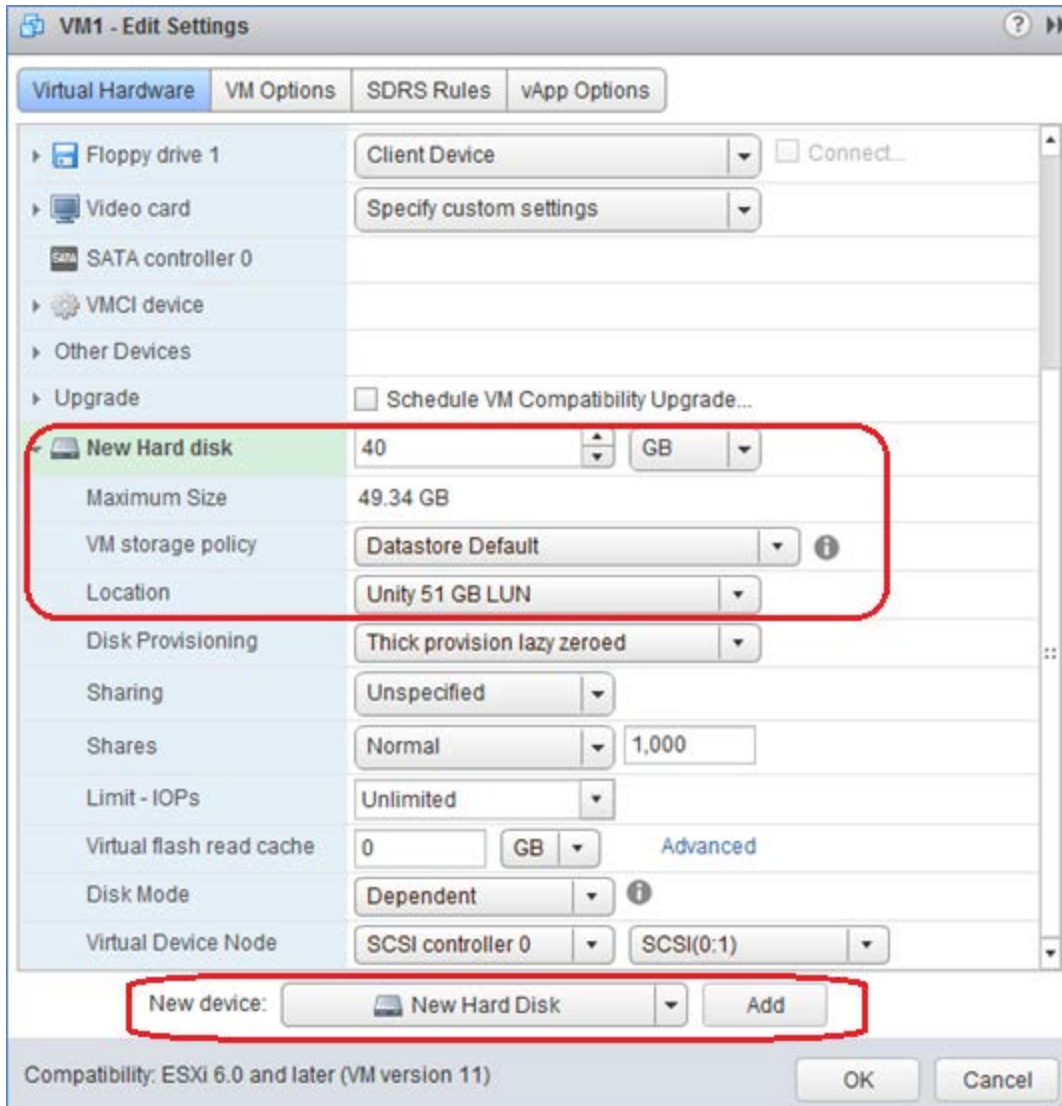

Figure 30 New hard disk configuration options
5. Next to **Location**, select **Browse**. Select the previously configured datastore, e.g. **Unity 51 GB LUN**, and click **OK**. The screen will look similar to Figure 30.